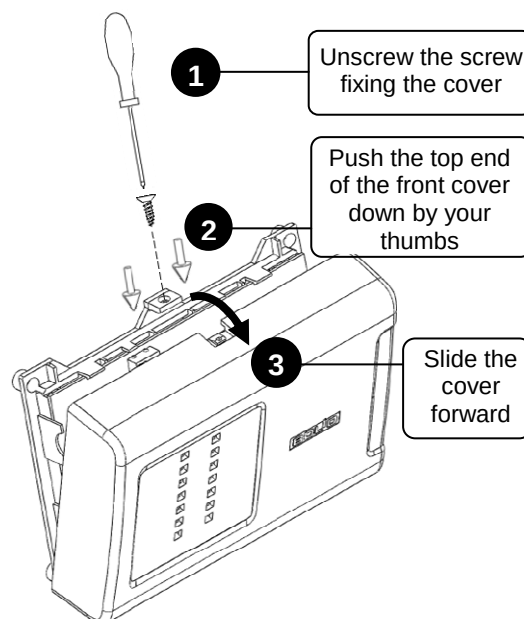

Figure 3. How to Remove the Cover
4. Remove the front cover from the panel as shown in Figure 3).
3. Remove the device front cover as shown in Figure 3.